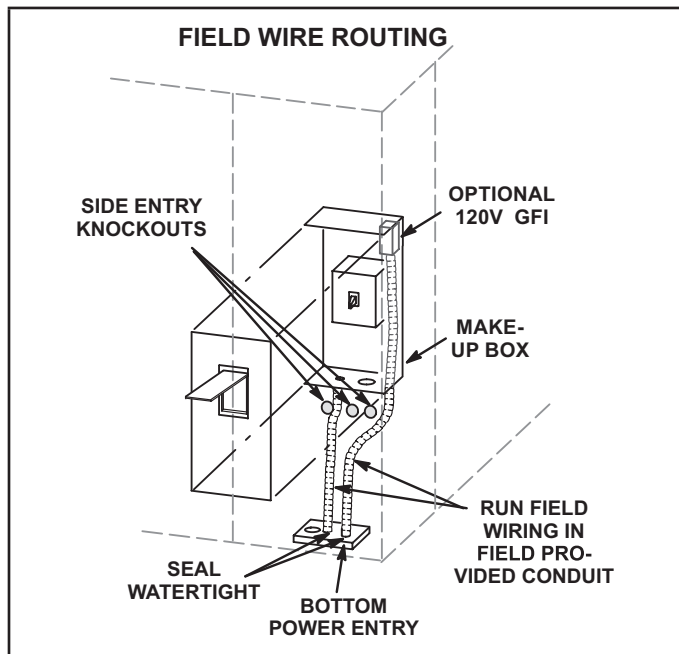

FIGURE 4
Route field wiring in conduit between bottom power entry and disconnect. See FIGURE 4. This does not supersede local codes or authorities having jurisdiction.
- 3 - Units With Optional 120v GFCI Outlet Route and connect separate 120v wiring to GFCI outlets which do not have factory-installed wiring. Route field wiring in conduit between bottom power entry and GFCI. See FIGURE 4.